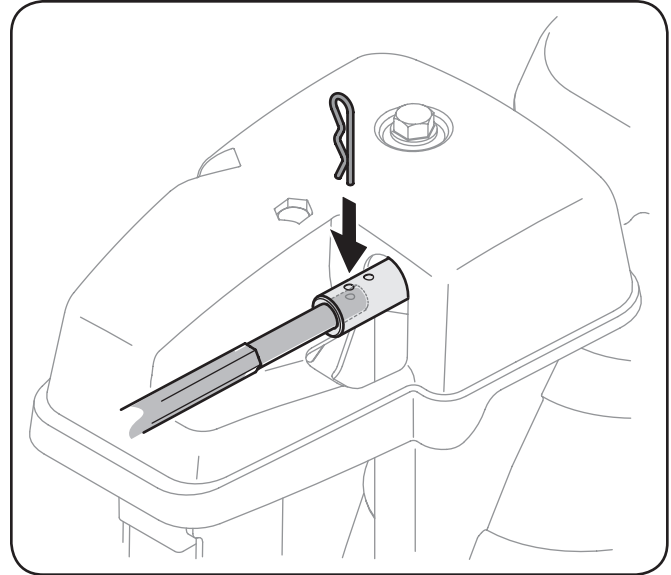

Figure 6-7
2. Pull out the chute control rod until the hole in it lines up with the second hole in the chute rotation assembly. See Fig. 6-7.
3. Reinsert the cotter pin through this hole and the chute control rod. See Fig. 6-7.